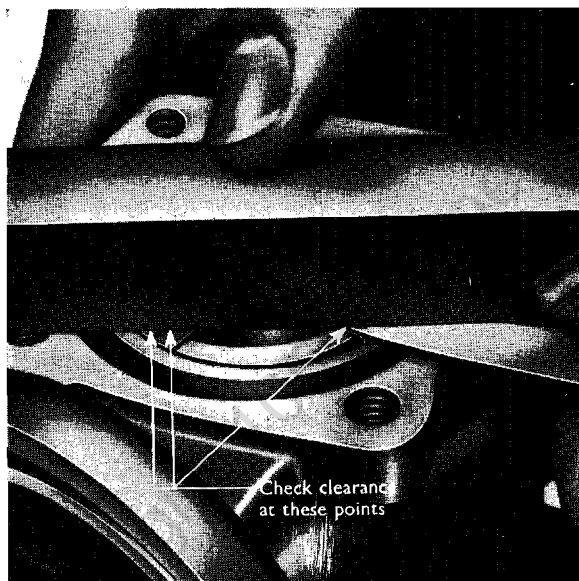

Fig. 10
3. Place a straight edge across the face of the pump body and check the clearance between the face of the vanes and rotor assembly and the straight edge (see Fig. 10). This should not exceed 0.005 in. (0.127 mm.). If this clearance is excessive, the face of the pump body can be carefully lapped on a flat surface.